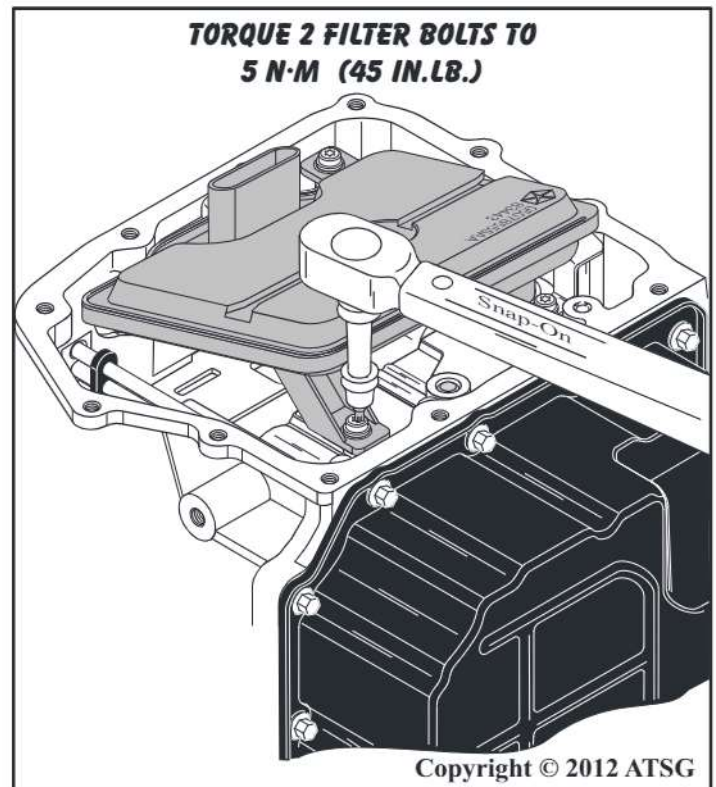
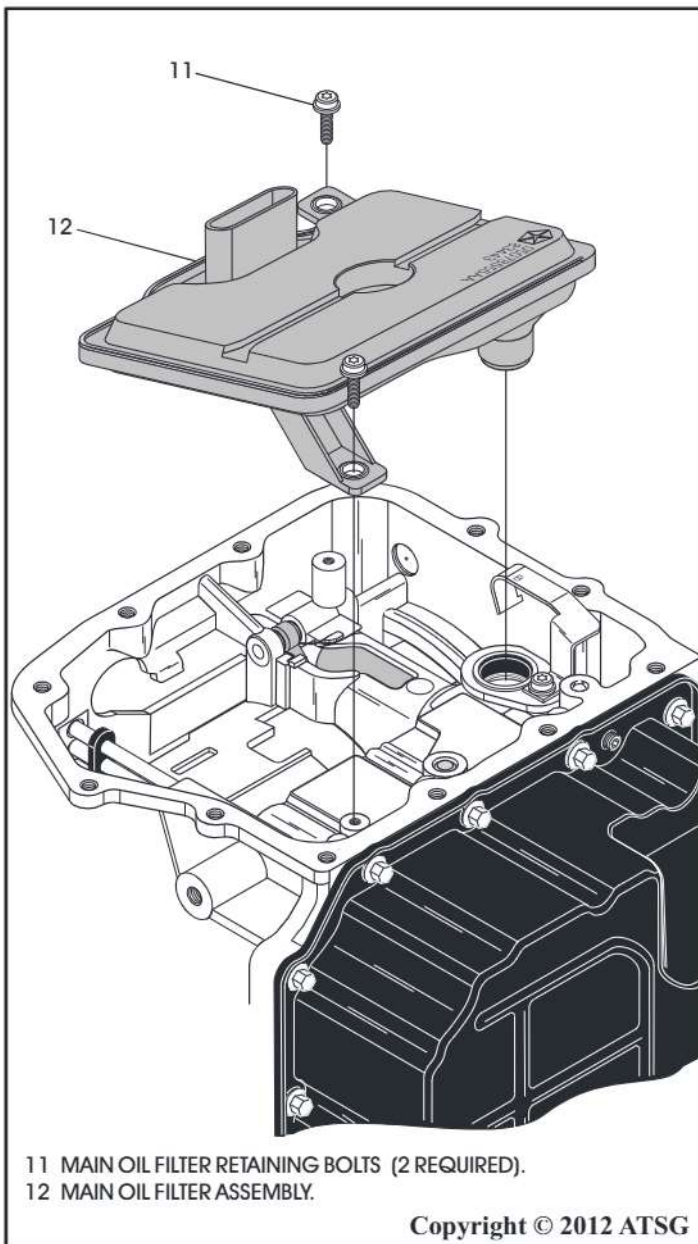

Figure 288
Figure 287
99. Lubricate new filter neck with a small amount of Trans-Jel® and install the main oil filter into case, as shown in Figure 287.
100. Install both main oil filter retaining bolts, as shown in Figure 287, and torque filter bolts to 5 N·m (45 in.lb.), using a T-25 Torx bit as shown in Figure 288.